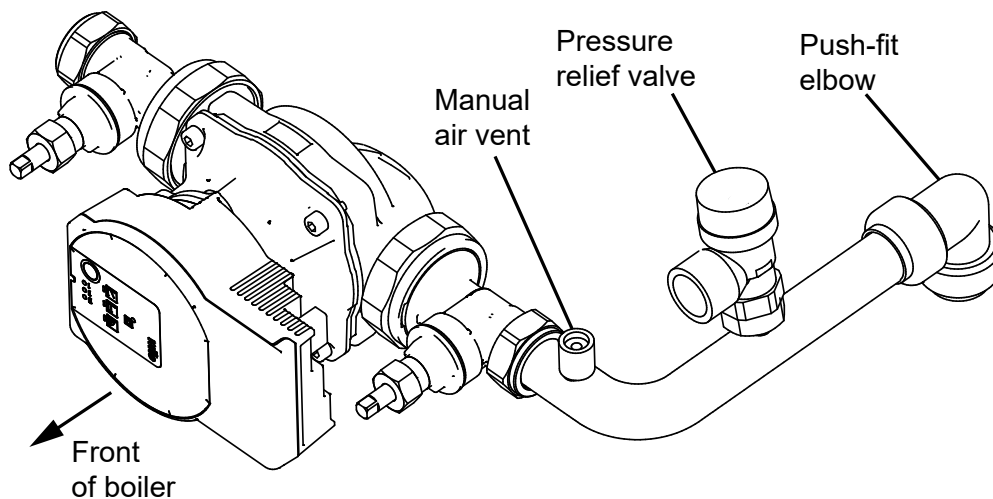

Figure 7-1: Vortex Pro External 15-26 sealed system kit pump assembly (Wilo Para SC pump shown)
7. Fit the pressure relief valve onto the manifold pipe, then push the manifold pipe end into the 22 mm push-fit elbow on the flow pipe. Refer to Figure 7-1.